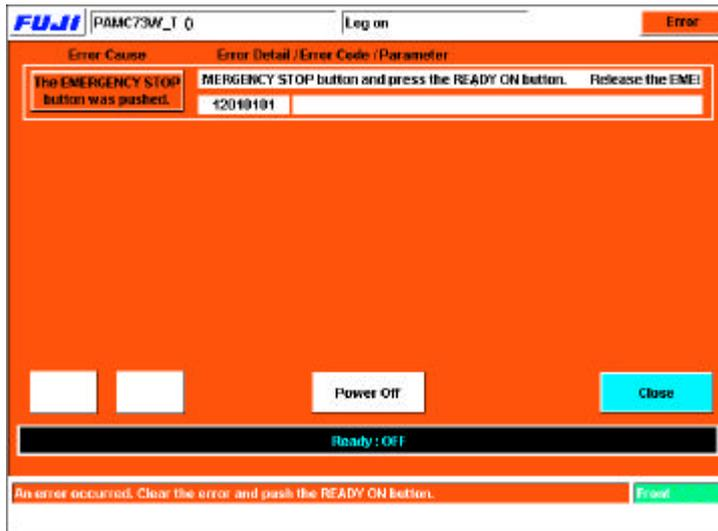

Figure 1
1. Press the [System on] button to boot the M/C. The following display will appear. (Fig.1)